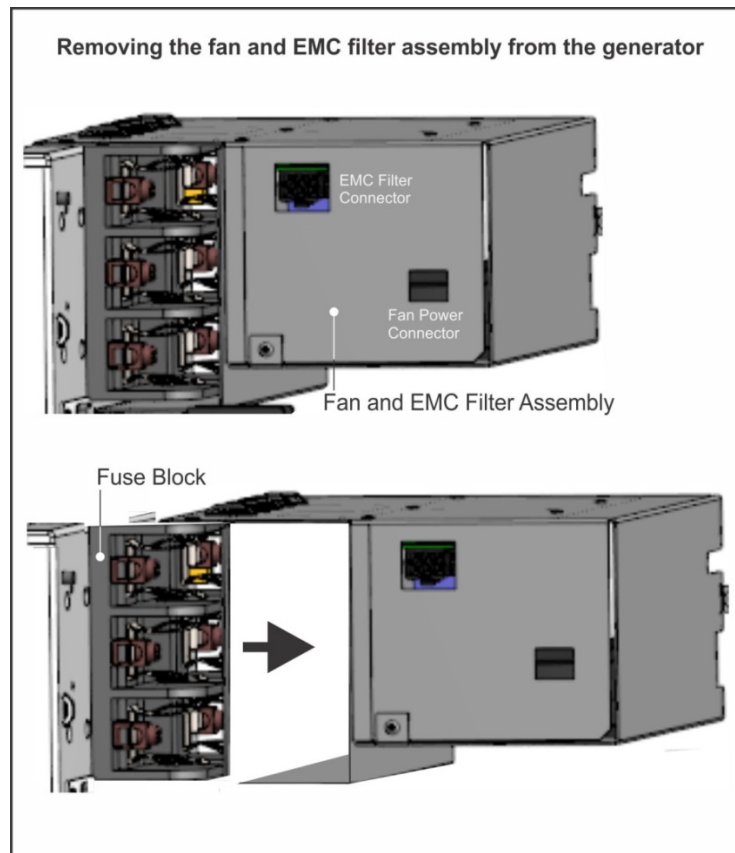

Figure 2-11A: Removing the fan and EMC filter assembly
1. Refer to Figure 2-11A and temporarily disconnect the fan by unplugging the fan power-connector and the EMC filter connector at the fan cover.
2. Refer to Figure 2-11A. Remove and set aside the hardware securing the assembly to the generator. Then remove the assembly and set it aside.